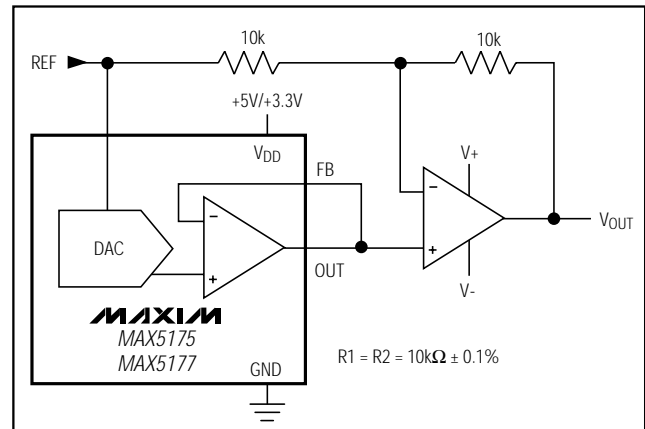

Figure 7. Bipolar Output Circuit
Figure 7 shows the MAX5175/MAX5177 configured for bipolar output operation. The output voltage is given by the following equation (FB = OUT):
where N represents the numeric value of the DAC's binary input code and VREF is the voltage of the external reference. Table 3 shows digital codes and the corresponding output voltage for Figure 7's circuit.
**Table 3. Bipolar Code Table (Circuit of Figure 7)**